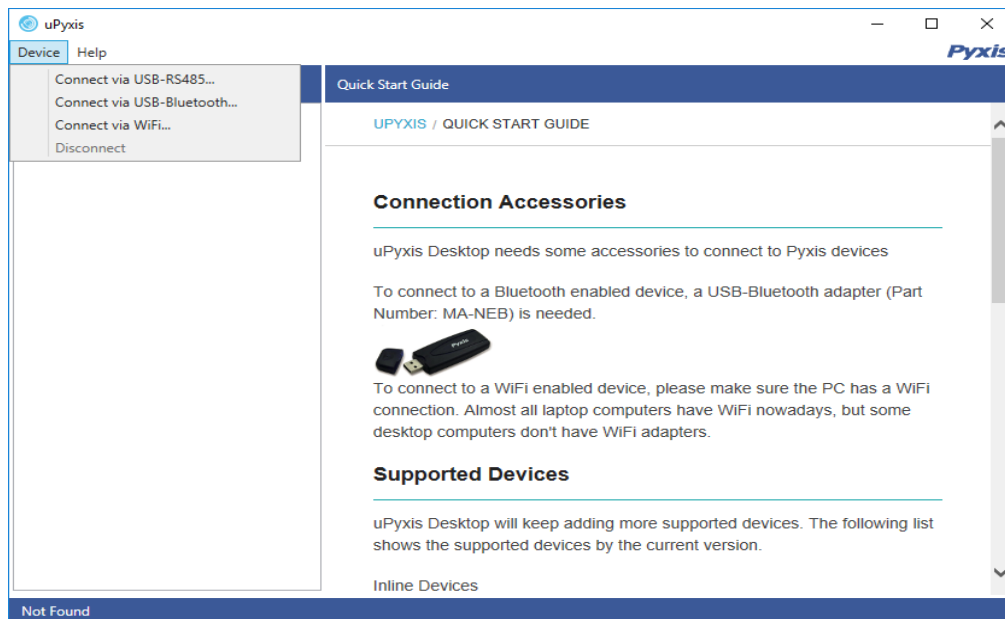
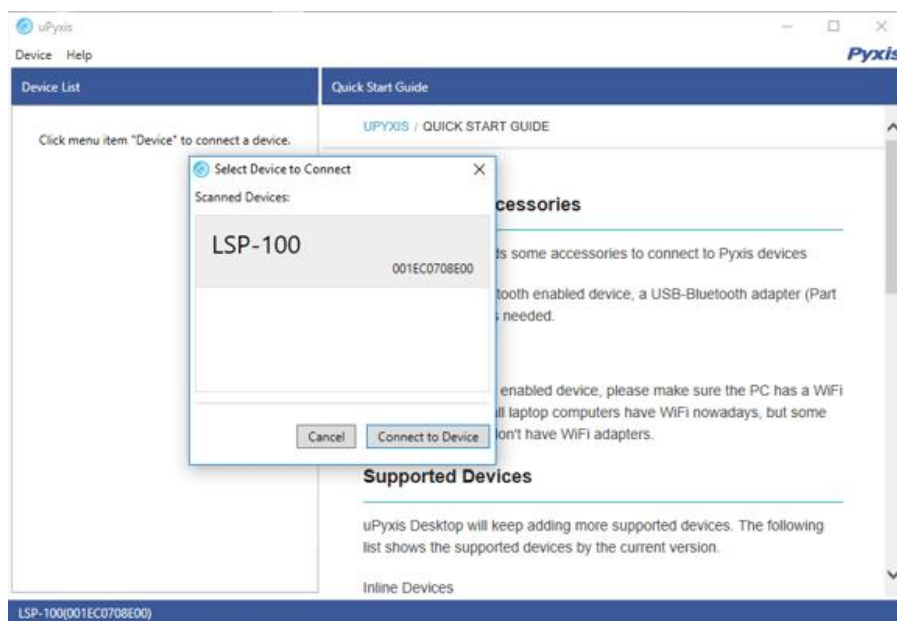

Figure 14. Connect uPyxis to LSP-100
Figure 15. LSP-100 discovered
3. On uPyxis Desktop, click menu Device -> **Connect via USB-Bluetooth** as shown in Figure 14. If the connection is successful, the LSP-100 and its Serial Number will be displayed in the left pane of the uPyxis window as shown in Figure 15.